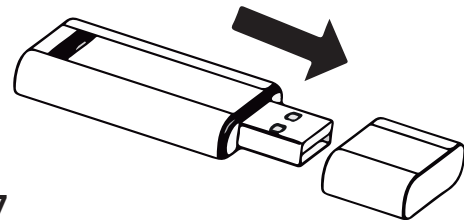

Fig. 7.7
1. Remove the protective cap of the wireless module (refer to **Fig. 7.7** below).